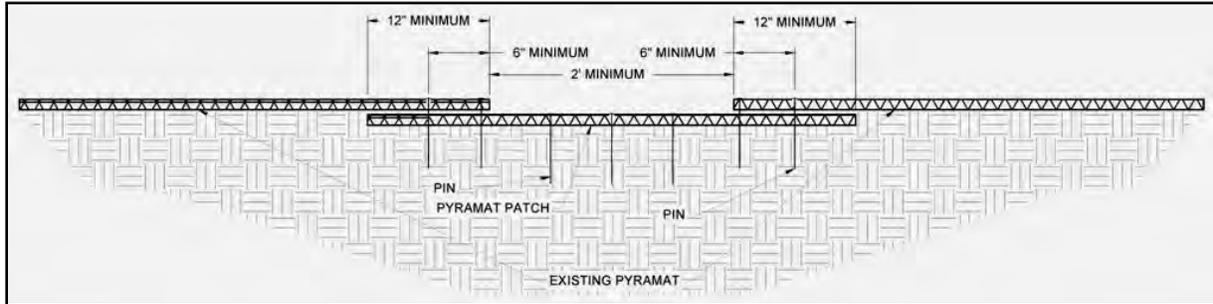

Figure 1: Pyramat Patch Cross Section
- A. *Acceptable (A)* - The rated area is in satisfactory, acceptable condition, and will function as designed and intended during the rain event. Pyramat has no exposed edges, is installed tightly by maintaining direct contact to the channel surface with no rilling beneath, and has over 90% vegetation cover. There is no noticeable damage present.
- B. *Minimally Acceptable (M)* - The rated area has a minor deficiency that needs to be corrected. The minor deficiency will not seriously impair the functioning of the area during the next rain event; however, the overall reliability of the project will be lowered because of the minor deficiency. Pyramat has 75% vegetation cover with un-vegetated patches as large as one square yard. Edges of Pyramat are exposed with noticeable damage. Minimal erosion has occurred underneath Pyramat.
- C. *Unacceptable (U)* - The rated area is unsatisfactory. The deficiency is so serious that the area will not adequately function in the next rain event. Pyramat has been physically torn, ripped, or lifted from the channel surface. Less than 75% vegetation cover is present with un-vegetated patches being greater than 1 square yard, and there is evidence that erosion is occurring beneath Pyramat.
3. To repair Pyramat, cut out and remove damaged areas in a square configuration a minimum size of 2 ft by 2 ft. Remove all vegetation and debris atop of Pyramat. Loosen the top 1 to 2 in of soil in the patch area. The subgrade of area to be patched shall be prepared to be smooth and uniform and transition smoothly into the in-situ area. Cut a square Pyramat patch a minimum of 12 in greater than the damaged area for all four sides of the patch. Overlap the patch area in all directions a minimum of 12 in. The patch overlaps shall be tucked under the existing damaged Pyramat material (Figure 1 and Figure 2).